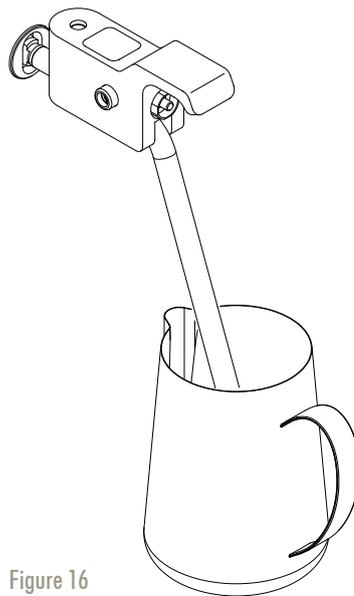

Figure 16
3. Hold the steam outlet by the black handle and plunge the steam pipe into the jug (Fig. 16).